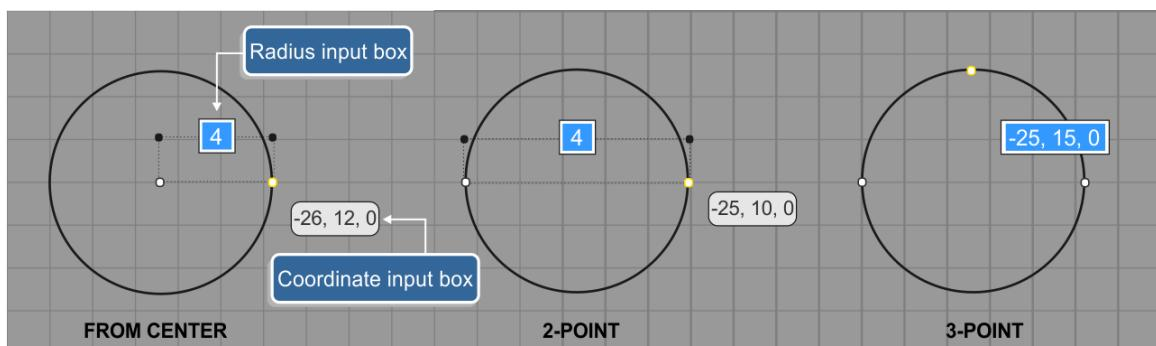

Figure 10. Creating a circle.
- b. Click on a point (or enter coordinates) lying on the circumference or input the radius as shown in Figure 10.